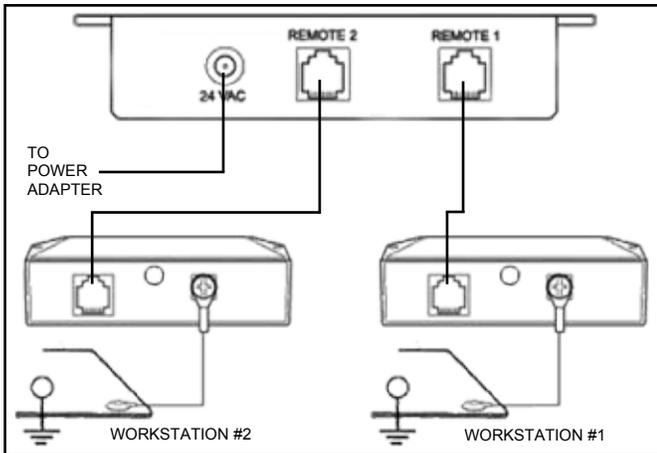

Figure 4. Wiring connection instructions for the 50516 / 50517 monitor control unit.
Figure 4 shows the monitor control unit as it is viewed from the rear, with the work surface wiring in place.
1. Use the rear phone jack connections and connect the Satellite Remote Units to the base unit with the phone cables. See Figure 4 for wiring connection instructions.
4. Confirm that worksurface surface resistance is $1 \times 10E7$ ohms or less. Connect the ring terminal end of the worksurface cord included with the unit to the screw on the back of the satellite. Snap the other end to the worksurface grounding point as shown in Figures 4 and 5.